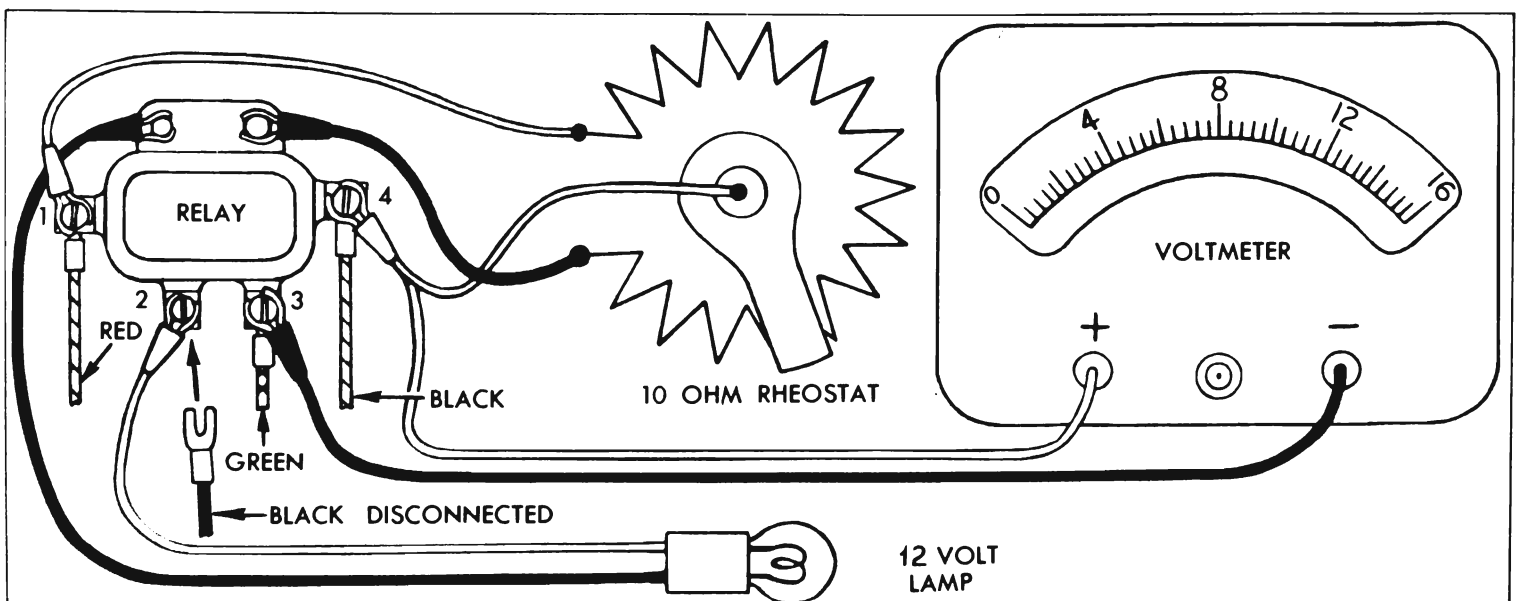

Figure 10-40—Solenoid Switch Relay Test Connections
1. With ignition switch turned off, remove black wire from relay terminal marked (2) in figure 10-40.
2. Connect 12-volt test lamp between relay terminal marked (2) and ground on relay mounting bolt.
3. Connect lead attached to rotating arm of rheostat to relay terminal marked (4). Connect one resistance lead to relay terminal marked (1) and connect the opposite lead to relay mounting bolt. See figure 10-40.
4. Connect leads of low reading voltmeter to relay terminals marked (3) and (4).
4. Connect the positive terminal of a 12-volt battery to relay terminal marked (1); connect the negative terminal of battery to relay terminal marked (3) and also to ground on relay mounting bracket.
5. Connect a 12-volt test lamp, low reading voltmeter and 10 ohm rheostat to relay terminals as shown in figure 10-40.